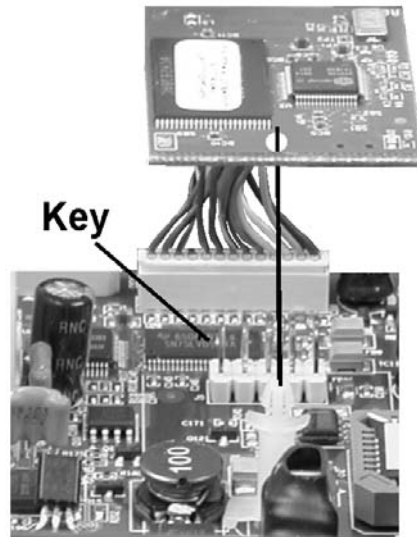

Figure 3-12: Installing a USB Flash Drive
1. Note the key arrangement on the USB flash drive connector and the Yellow 2x5 system board connector, J5. Refer to Figure 3-12, and install the USB flash drive. Make sure the stand-off projects through the hole in the board.